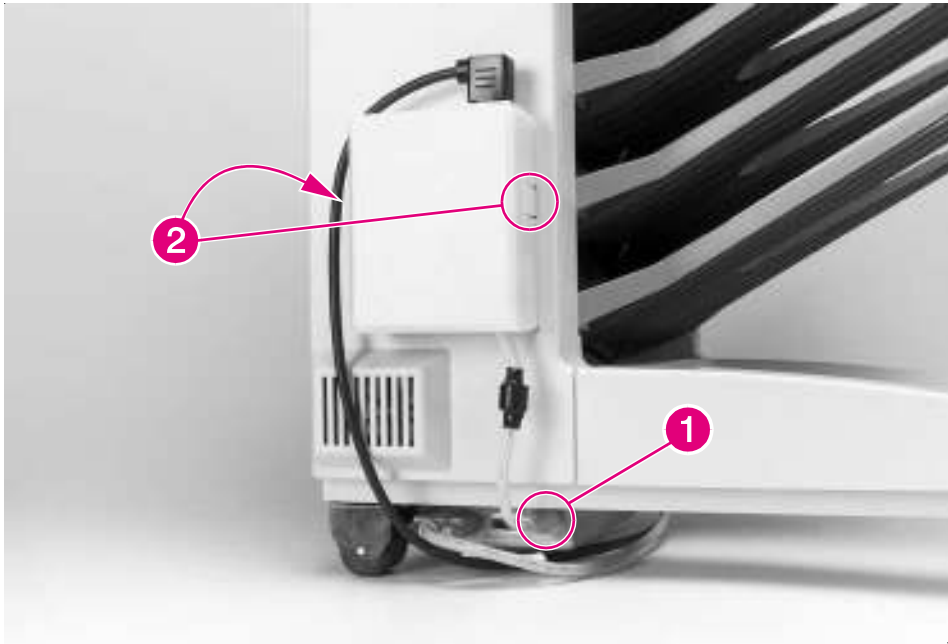

Figure 6-154 8-bin Mailbox Power Supply
- 1 Locate the cable that runs from the 8-bin Mailbox Power Supply down to the 8-bin Mailbox Controller PCA, and disconnect the cable from the Controller PCA (Figure 6-154, callout 1).